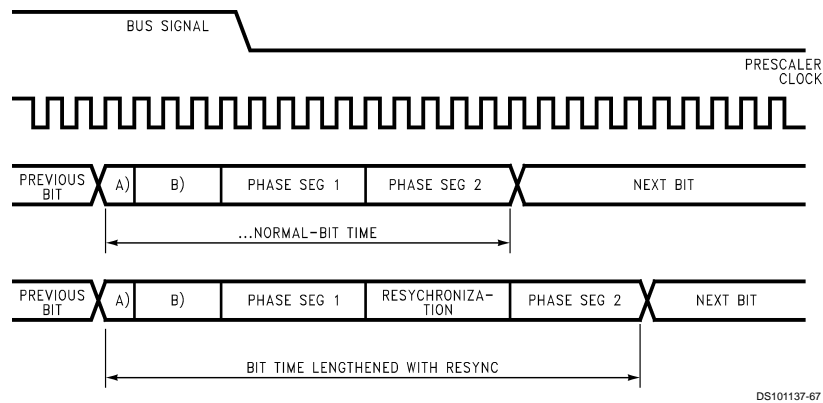

FIGURE 32. Resynchronization 1
**Soft synchronization** is used to lengthen or shorten the bit time while a data or remote frame is received. Whenever a falling edge is detected in the propagation segment or in phase segment 1, the segment is lengthened by a specific value, the resynchronization jump width (see Figure 32).
If a falling edge lies in the phase segment 2 (as shown in Figure 32) it is shortened by the resynchronization jump width. Only one resynchronization is allowed during one bit time. The sample point lies between the two phase segments and is the point where the received data is supposed to be valid. The transmission point lies at the end of phase segment 2 to start a new bit time with the synchronization segment.